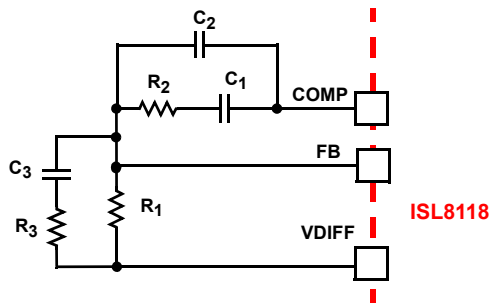
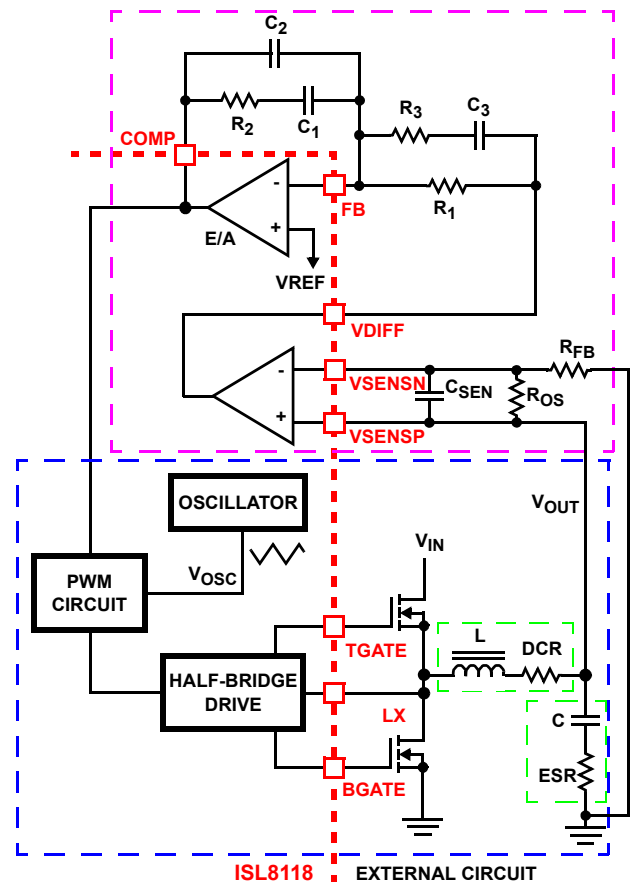

FIGURE 9. COMPENSATION CONFIGURATION FOR ISL8118 WHEN USING DIFFERENTIAL REMOTE SENSE
FIGURE 10. VOLTAGE-MODE BUCK CONVERTER COMPENSATION DESIGN
The ISL8118 single-phase converter is a voltage-mode controller. This section highlights the design considerations for a voltage-mode controller requiring external compensation. To address a broad range of applications, a type-3 feedback network is recommended (see Figure 9).
Figure 10 highlights the voltage-mode control loop for a synchronous-rectified buck converter, when using an internal differential remote sense amplifier. The output voltage (V_{OUT}) is regulated to the reference voltage, V_{REF} , level. The error amplifier output (COMP pin voltage) is compared with the oscillator (OSC) triangle wave to provide a pulse-width modulated wave with an amplitude of V_{IN} at the LX node. The PWM wave is smoothed by the output filter (L and C). The output filter capacitor bank's equivalent series resistance is represented by the series resistor ESR.
The compensation network consists of the error amplifier (internal to the ISL8118) and the external R_1 - R_3 , C_1 - C_3 components. The goal of the compensation network is to provide a closed loop transfer function with high 0dB crossing frequency (F_0 ; typically 0.1 to 0.3 of F_{SW}) and adequate phase margin (better than 45°). Phase margin is the difference between the closed loop phase at F_{0dB} and 180°. The equations that follow relate the compensation network's poles, zeros and gain to the components (R_1 , R_2 , R_3 , C_1 , C_2 , and C_3) in Figures 9 and 10. Use the following guidelines for locating the poles and zeros of the compensation network:
1. Select a value for R_1 (1kΩ to 10kΩ, typically). Calculate value for R_2 for desired converter bandwidth (F_0). If setting the output voltage to be equal to the reference set voltage as shown in Figure 9, the design procedure can be followed as presented. However, when setting the output voltage via a resistor divider placed at the input of the differential amplifier (as shown in Figure 10), in order to compensate for the attenuation introduced by the resistor divider, the below obtained R_2 value needs be multiplied by a factor of $(R_{OS} + R_{FB})/R_{OS}$. The remainder of the calculations remain unchanged, as long as the compensated R_2 value is used.
A small capacitor, C_{SEN} in Figure 10, can be added to filter out noise, typically C_{SEN} is chosen so the corresponding time constant does not reduce the overall phase margin of the design, typically this is 2x to 10x switching frequency of the regulator. As the ISL8118 supports 100% duty cycle, d_{MAX} equals 1. The ISL8118 also uses feed-forward compensation, as such V_{OSC} is equal to 0.16 multiplied by the voltage at the VFF pin.